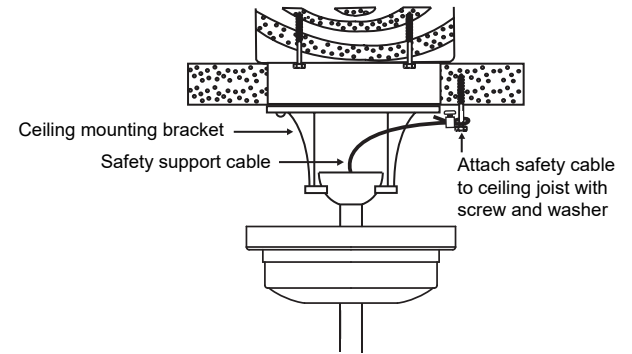

Fig. 8
Step 1. Attach the provided wood screw and washers to the ceiling joist next to the mounting bracket but do not tighten. (**Fig. 8**)